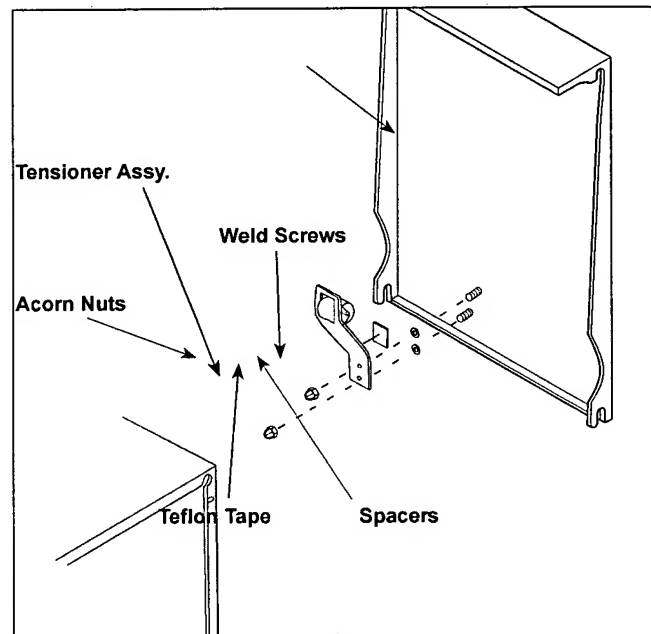

Figure 17. Replacing Roller Tensioner Assy.
1. Remove acorn nuts (Figure 17).